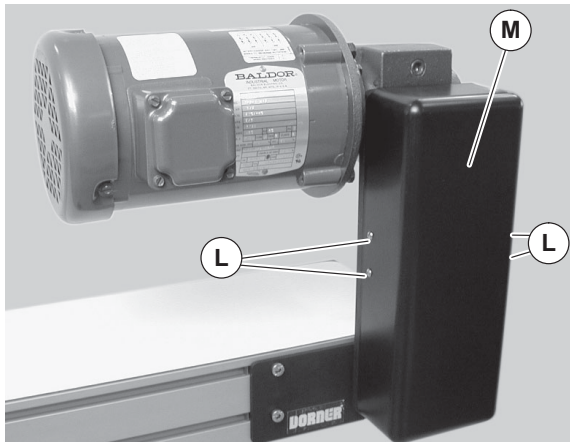

Figure 14
- a. Remove four (4) screws (Figure 14, item L) and cover (M).